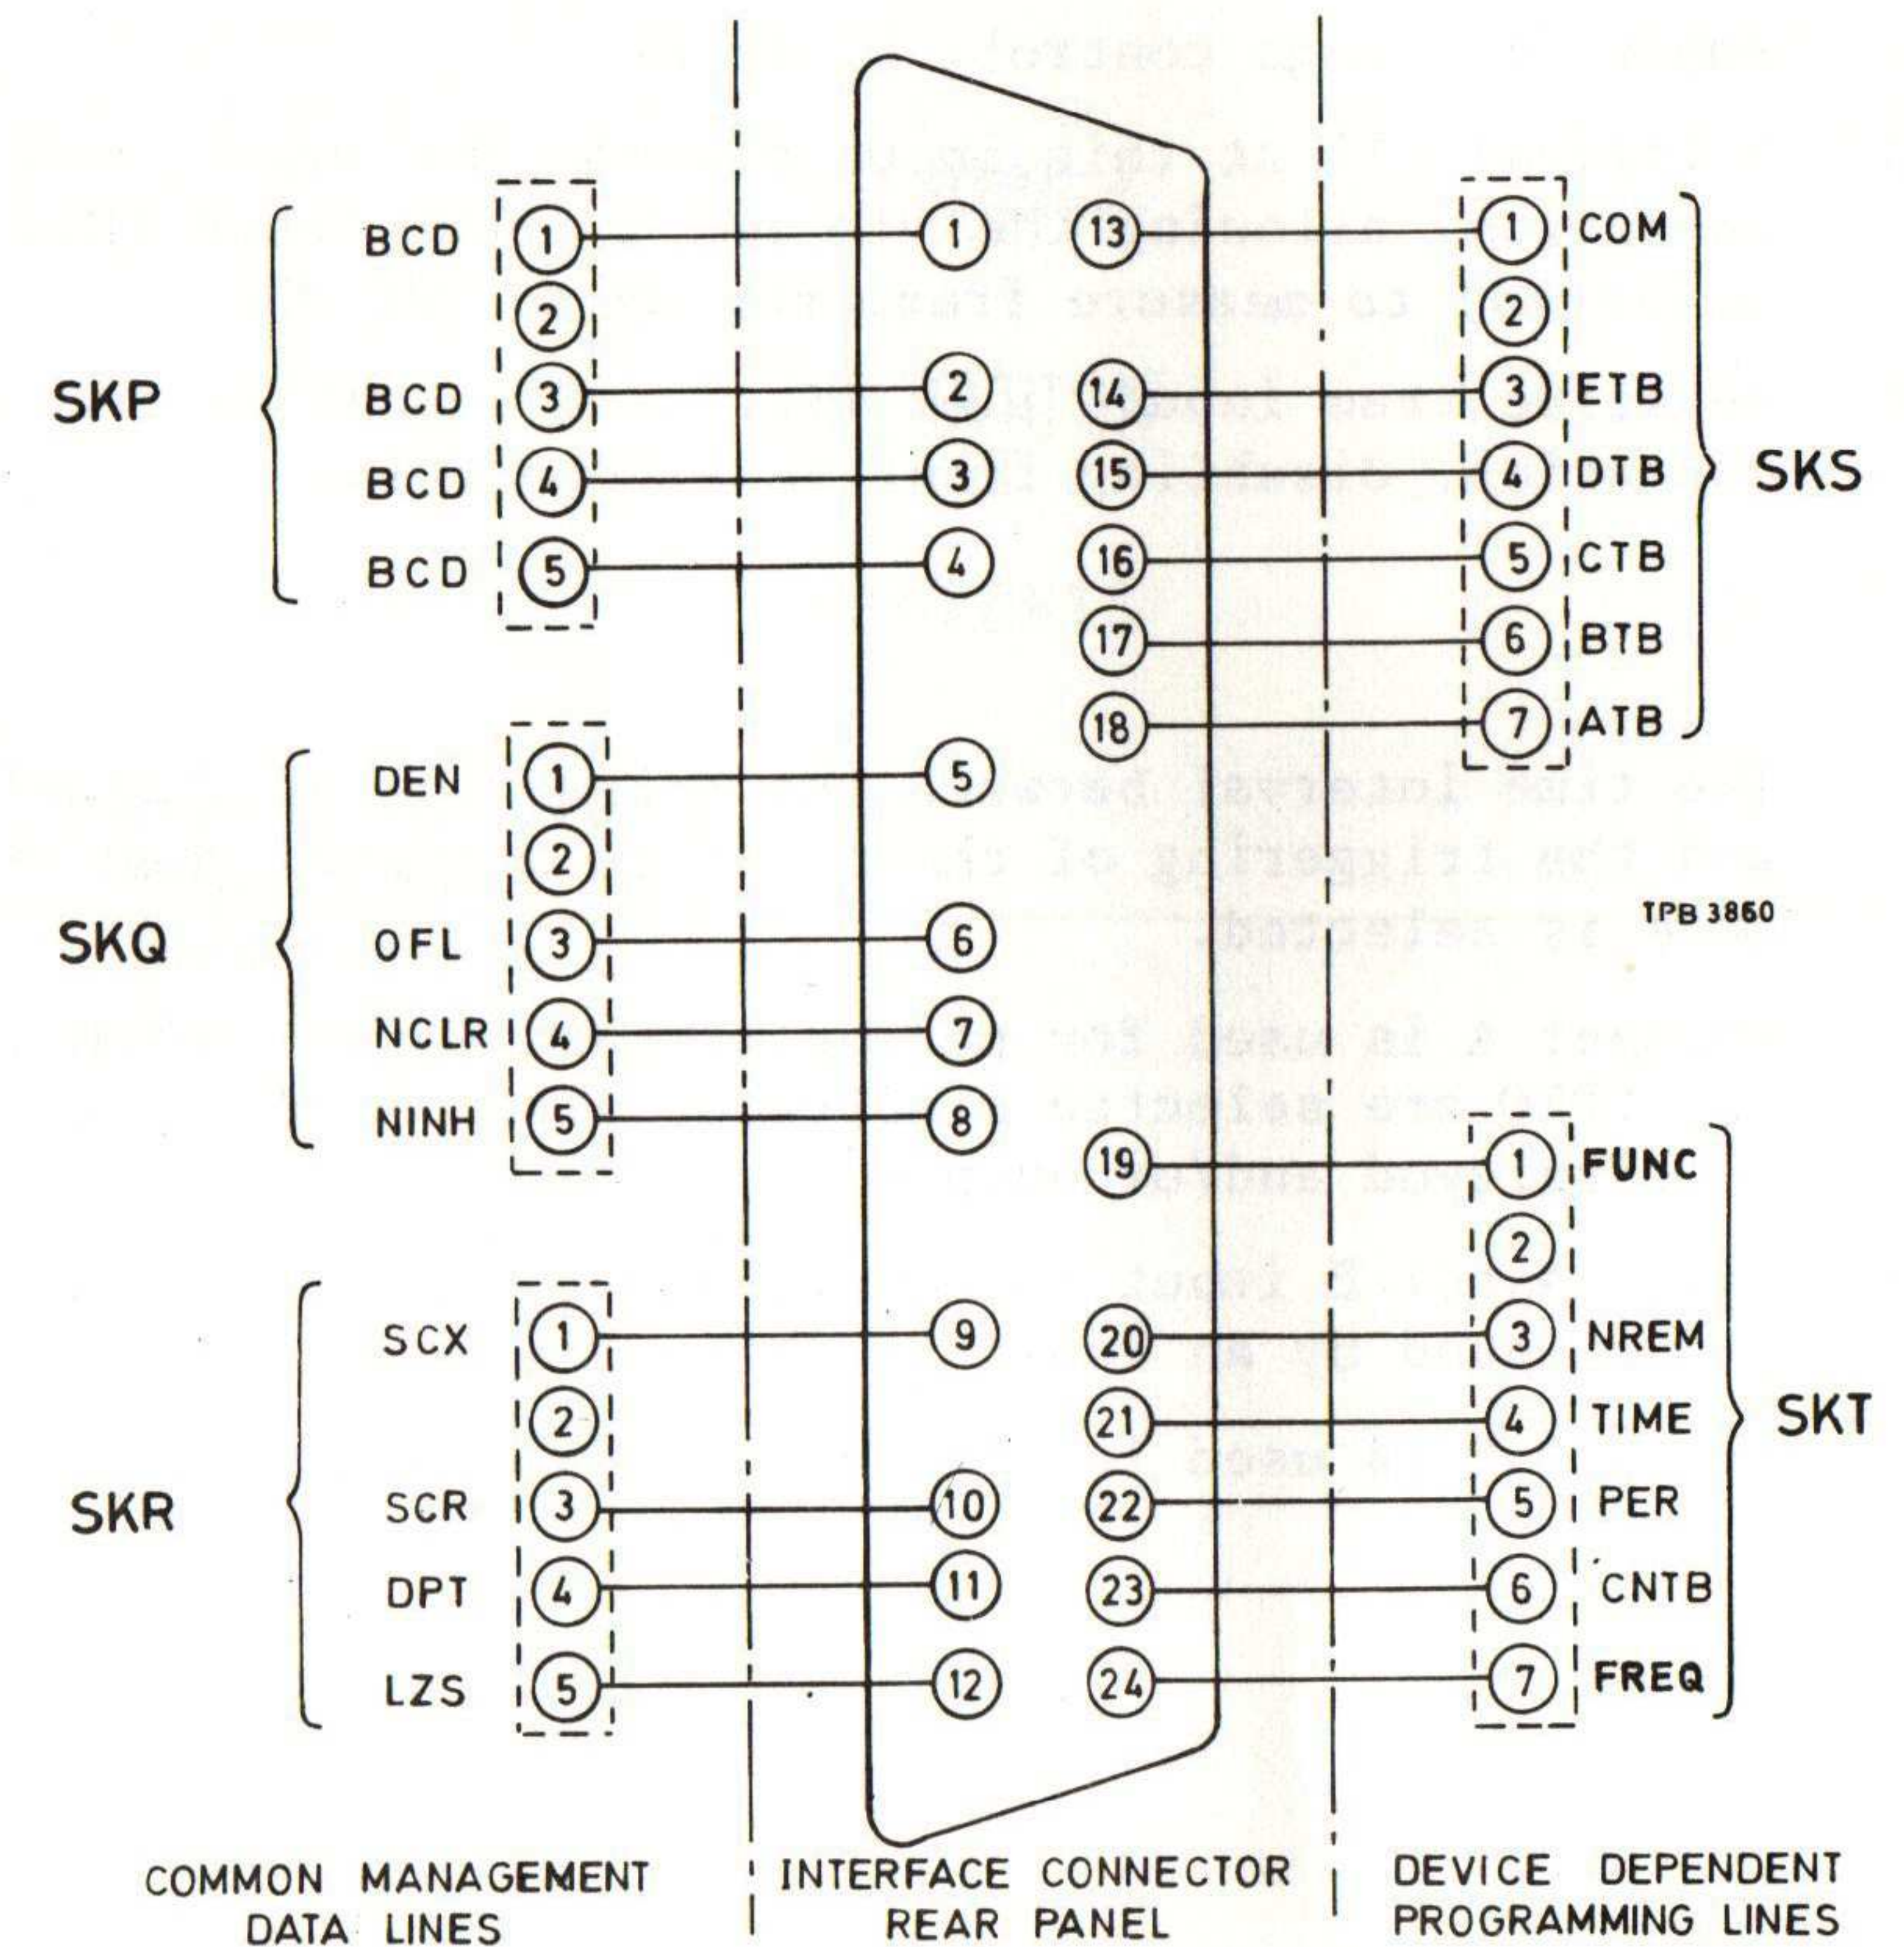

Fig. 1 Data interface pin assignment
11. The functions of the data interface lines are as follows. Refer to Fig. 1. All lines are positive true t.t.l. unless otherwise stated.